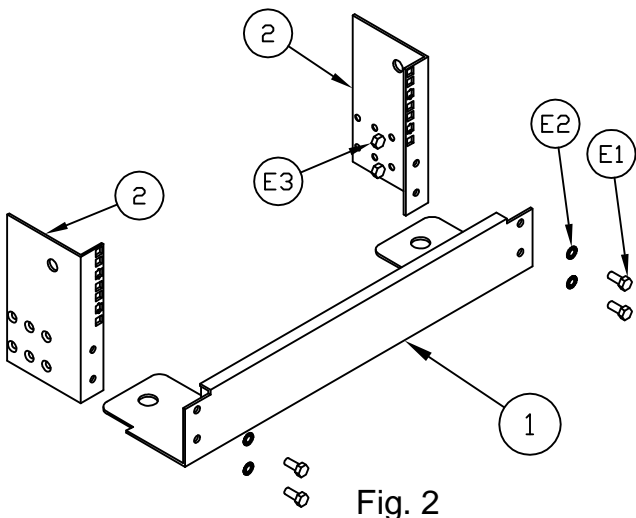

Fig. 2
2. Attach Base Angle Weldment (1) to Rack Mount Rail (2) using Screws (E1), Washers (E2), and Nuts (E3). See Fig. 2
**NOTE:** Base Angle Weldment (1) installs as shown to reduce foot print. Angle may be installed in opposite direction to have mounting holes for anchoring on outside of frame.